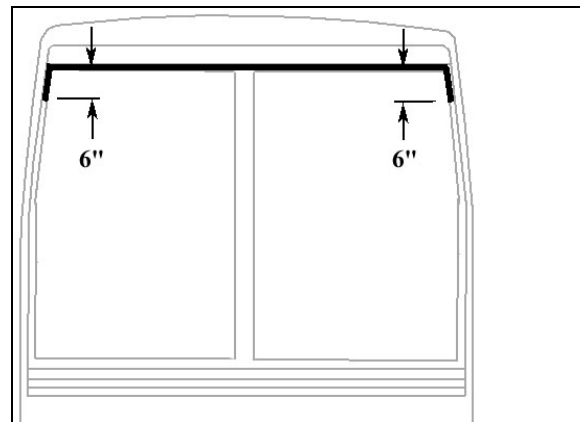

**FIGURE 23: WINDSHIELD INSTALLATION USING ROPE**
- Insert rope into rubber extrusion leaving enough length at each corner to make a loop. Spray soapy water onto rope and rubber extrusion (Figure 23).